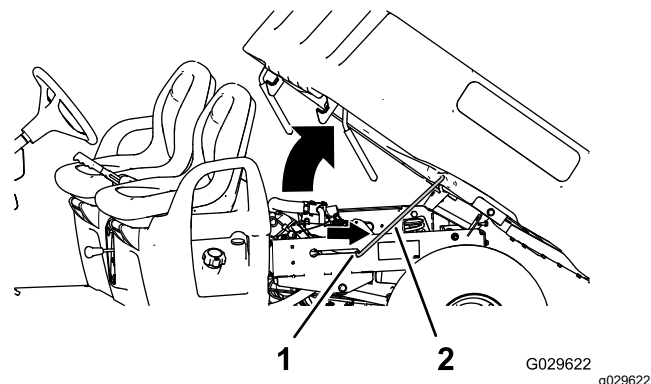

Figure 15
2. Pull the prop rod into the detent slot to secure the bed (Figure 15).
2. Pull the prop rod out of the detent slot (Figure 15).
3. Lower the bed until it latches securely into place (Figure 15).